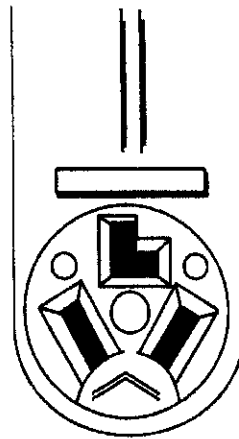
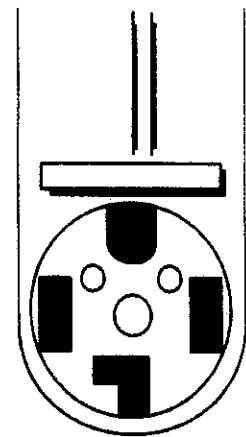

Fig. 2
Fig. 3
- A. A three-wire (Fig. 2) or four-wire (Fig. 3), single phase, 120/240 volt, 60 Hz, AC only electrical supply is required on a separate 30-ampere circuit, fused on both sides of the line. A time-delay fuse or circuit breaker is recommended.
1. Remove the yellow rip cord from the rear of the washer. Be sure two (2) cotter pins come out with the rip cord. (Fig. 2, page 2) Save this strap for use later.
2. Use the new hoses supplied with the laundry system. Insert a flat washer into each end of both hoses. (Fig. 2, page 2)
3. Attach one hose to the bottom (hot water) inlet valve connector first. Then, attach the other hose to the top (cold water) inlet valve connector. Hand tighten both connections. Finish tightening with a pair of pliers, an additional 2/3 turn. (Fig. 2, page 2)
5. Squeeze the ears of the drain hose clamp with a pair of pliers and place the clamp over the end of the drain hose. (*Fig. 2 - Inset A*)
7. Position the clamp over the drain hose area marked "clamp." Release the clamp. Clamp should be  $\frac{1}{4}$ " from the end of the hose. (*Fig. 2 - Inset B*)